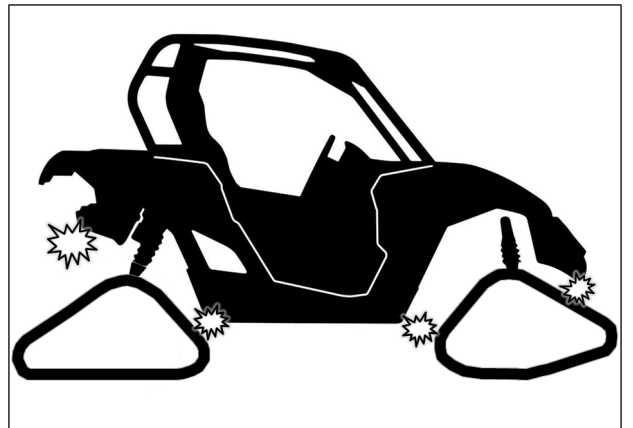

Fig. 27
- Verify for possible contact between Track System and lower fender corners. See Fig. 27